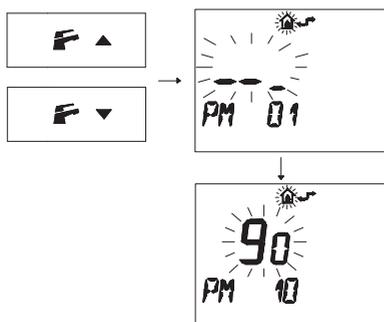

Fig. 7.37
- Press buttons **F**▲ or **F**▼ to display the "PM10" program for selecting the ignition frequency (Fig. 7.37).
In Fig. 7.37 a SET programmed at **90** is displayed corresponding to a re-ignition time of about 3 minutes.